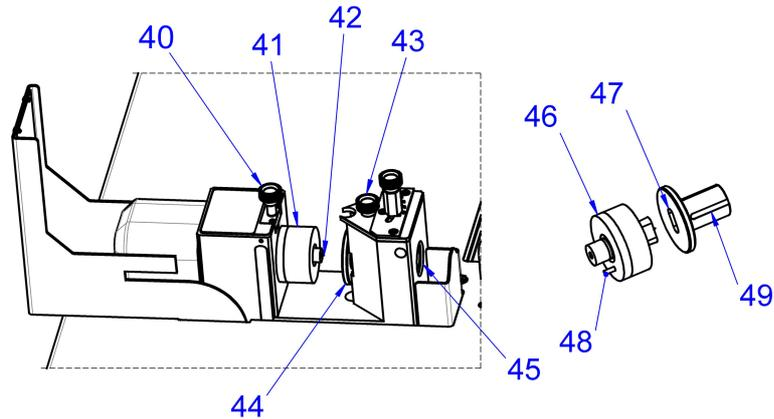

Fig. 7: Punching holes in the busbars
Holes are punched in the copper or aluminium busbars with a male die (fig. 7, 41) and the appropriate female die (fig. 7, 44). Slot male and female dies have additional pins (fig. 7, 48) or grooves (fig. 7, 49) to simplify an exact angular positioning.
- Insert the hole female die (fig. 7, 44) in the main body and tighten the locking screw (fig. 7, 43). When a slot female die is used, the corresponding groove (fig. 7, 49) must point upwards.
- Insert the male die (fig. 7, 41) in the tool holder of the load piston and tighten the locking screw (fig. 7, 40). For slot male dies (fig. 7, 46), ensure that the positioning pin (fig. 7, 48) sits correctly in the appropriate hole of the load piston and the slot alignment matches the female die.
- Set the centring tip of the male die (fig. 7, 42) directly at the centre mark. This allows the hole pattern to be punched exactly.